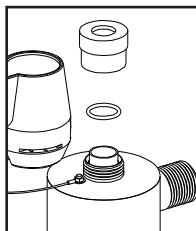

FIGURE 3C
- Clean the sleeve as outlined in above, or replace with a new sleeve. Reinstall the quartz sleeve in the reverse order. The reactor is designed for easy installation of the quartz sleeve by incorporating a unique sleeve centering guide. To install the sleeve, carefully insert the sleeve into the reactor chamber (do not drop) and push the sleeve until it firmly seats in the end of the reactor centered in the sleeve centering guides (Figure 3c). Install a lubricated (silicone release grease) o-ring (Part number 410867) onto the sleeve until it is positioned against the chamfered seat (Figure 3d).